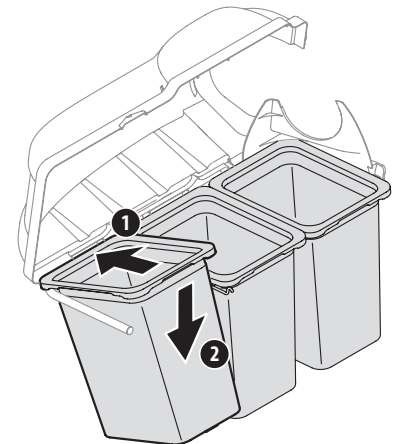

Figure 14
8. Install the grass bag assemblies (664-05104), with the tight mesh panel facing the tractor, onto the bag support brackets by inserting the front edge in first, as shown in 1 of Figure 14, and setting the back edge down (2) until it fits into the assembly.